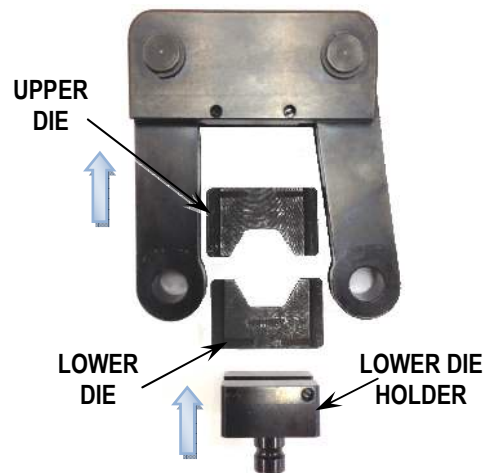

Figure 2
3. Slide the dies into the grooves of the upper portion of the crimp head and snap into position on the upper die holder. Then snap the lower die into the lower die holder. See Figure 2.